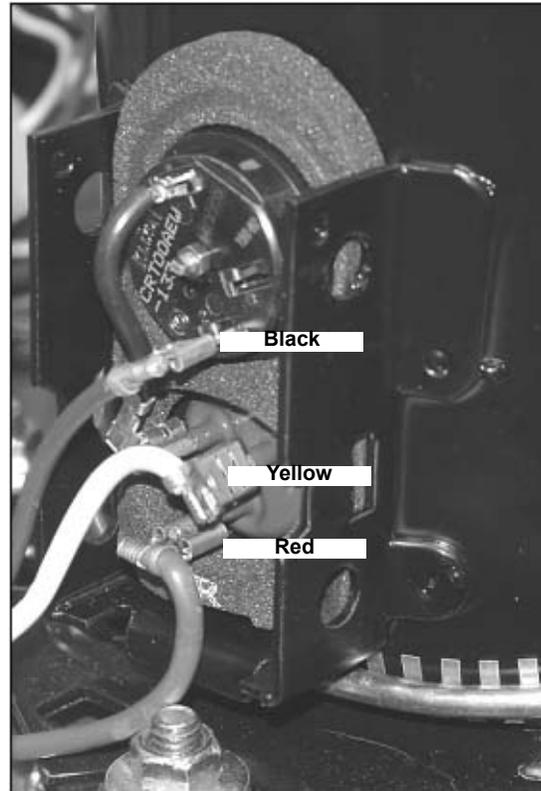

Figure 48.
51. Connect the compressor (Figure 48) and replace the junction box cover.